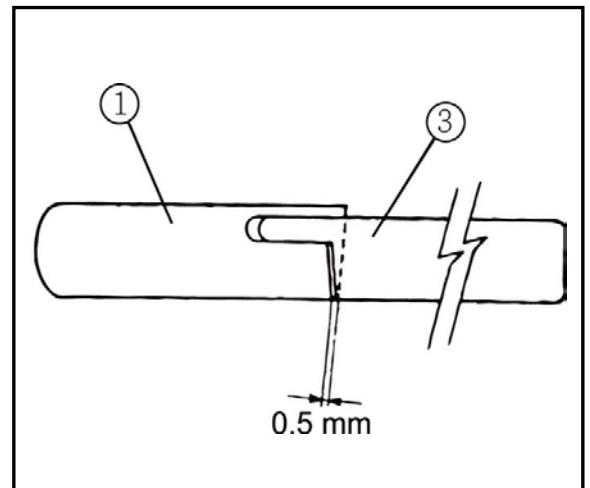

Fig. 32
The standard position of the upper knife ③ is to overlap between the upper knife ③ and lower knife ① by 0.5 mm when the upper knife ③ is at the extreme left. (Fig. 32)
Loosen the screws ④ and ⑤ to adjust the lower and upper knives respectively. (Fig. 32 & 33)